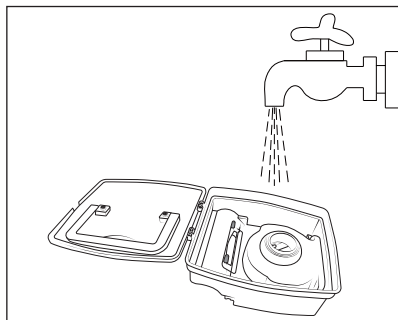

Fig. 10
- 5) Clean the dust container **12** with cold or lukewarm water (see Fig. 10). Allow the dust container **12** to air dry completely before inserting it back into the appliance.